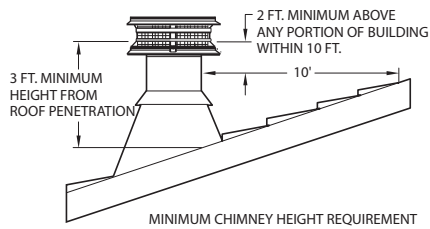

Figure 1
- Determine the minimum chimney height above the roof line. Building codes require a minimum of 3' above the roof penetration and at least 2' higher than any portion of a building within 10'. See *figure 1*. The termination cap is installed above that point. If chimney is more than 4' above the roof penetration an Extended Roof Bracket is required.